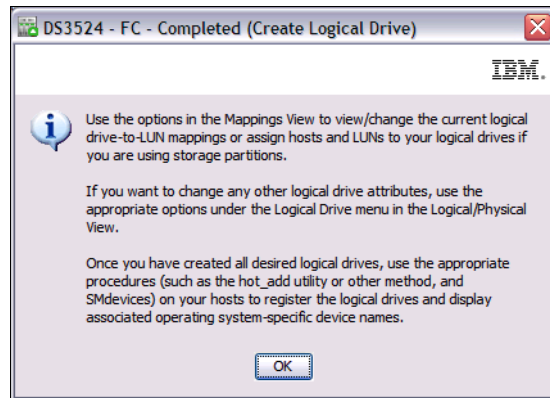

Figure 9-22 Create logical drive - Completed
- The Completed window opens as shown in Figure 9-22 on page 237. Click **OK** to finish.